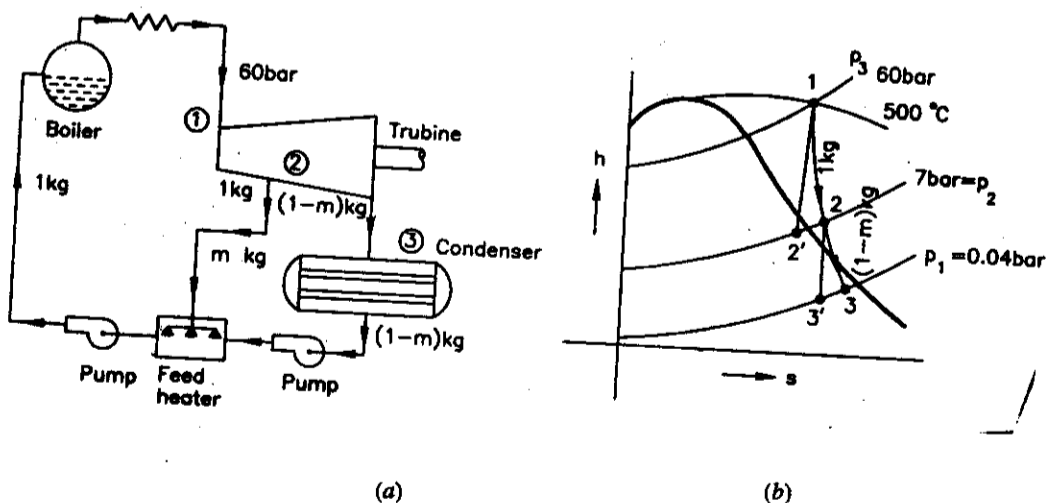

Fig. Prob. 22.22.
**Solution.** The arrangement of the components is shown in Fig. Prob. 22.22 (a) and the processes are represented on  $h$ - $s$  chart as shown in Fig. Prob. 22.22 (b).